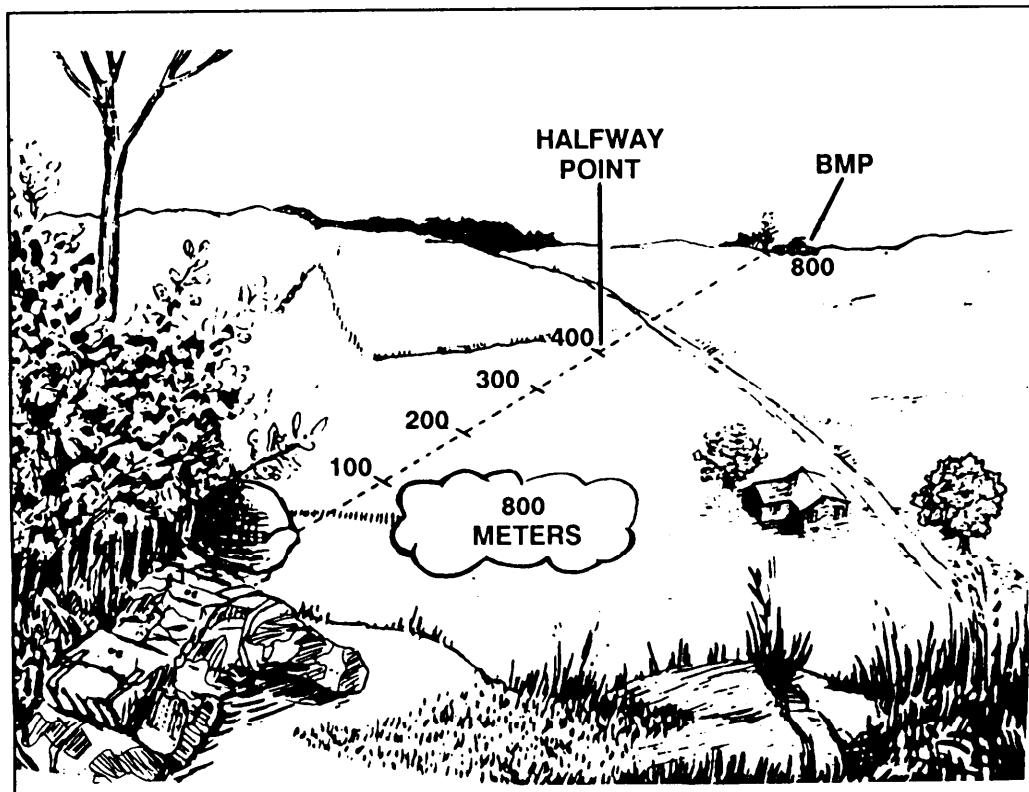

**Figure 5-10. 100-meter unit of measure method, less than 500 meters.**
(1) When using the 100-meter unit of measure method, the gunner must be able to visualize what 100 meters looks like on the ground. With this distance in mind, the gunner can mentally determine the number of 100-meter units between his position and the target. The accuracy of this method is limited to 500 meters or less, and it requires constant practice (Figure 5-10).